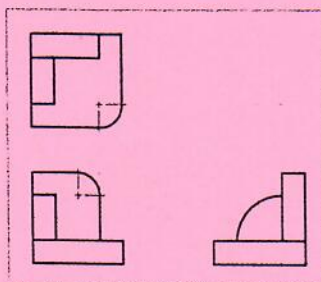

Figure 8 An orthographic view of a blacksmith support block.
- a) A drawing of a machine block is shown in Figure 8. Sketch the isometric of the block.